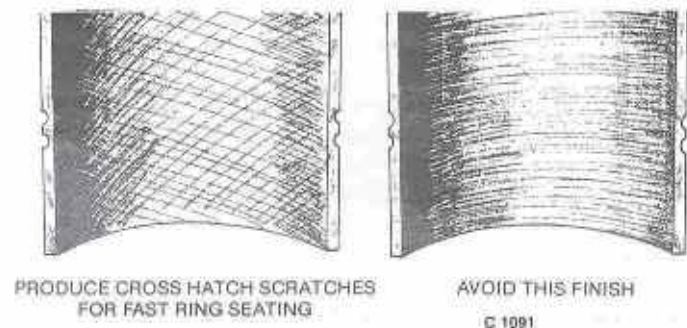

FIGURE 82. CROSS HATCH FINISH
4. The crosshatch formed by the scratching of the stones should form an angle of 23 degrees. This can be achieved by moving the hone up and down in the cylinder about 40 times per minute (Figure 82).